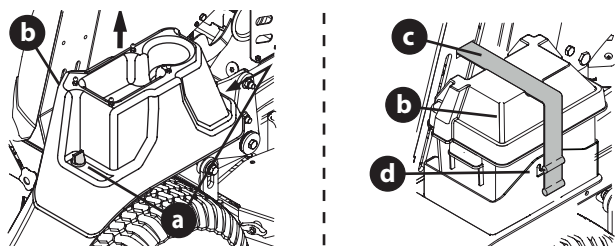

Fig. 4
- Mowers with 48, 54 or 60 Inch Decks - Remove the two thumb screws (a) securing the battery cover (b) to the right fender. Lift up to remove the battery cover (Fig. 4).
- Mowers with 36 Inch Decks - Unhook the rubber strap (c) securing the battery cover (b) to the battery tray (d). Lift up to remove the battery cover (Fig. 4).